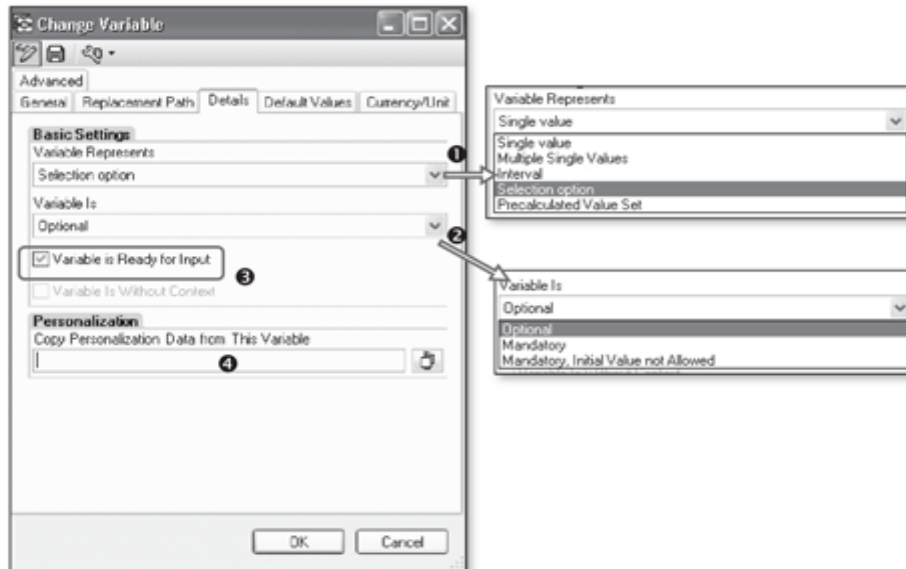

Figure 9.27 Details Tab for VAR_MATGRP
The remaining definition for this variable is defined on the Details tab as shown in Figure 9.27.
On the Details tab, you decide what the variable represents from the available options (❶ of Figure 9.27). You can also define if the variable should be made as an optional variable (the user can run the query without entering a value for this variable), a mandatory variable (the user must enter a value for this variable), or a mandatory variable where the initial value isn't allowed (# isn't accepted as an input for the variable) (❷).
The checkbox setting **Variable Is Ready for Input** is an important setting for a variable (❸ of Figure 9.27). If this setting is checked, then the variable appears on the selection screen when the query is executed, and the user can input the values for the variable. If the box is unchecked, the user can't input the value for the variable, so the query is executed using the default values of the variable. For our example variable, we need the user to select the material group, so **Variable Is Ready for Input** is checked.